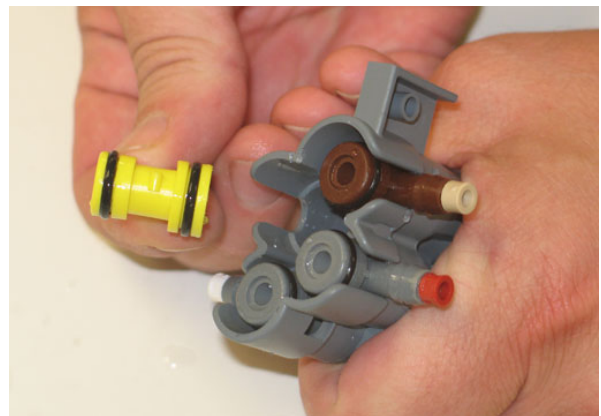

FIG. 49
11. Remove the yellow eductor from port 1 of the valve assembly. (Fig. 49)